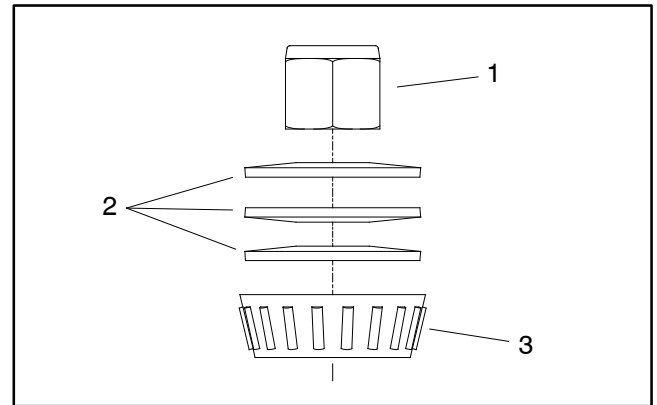

Figure 14
4. Remove grease cap (item 1) from carrier frame. Discard cap.
6. Remove three (3) Belleville washers and upper bearing cone from carrier frame. Note orientation of washers as they are removed (Fig. 14). Belleville washer orientation is critical for proper castor wheel movement.
4. Slide castor fork up through carrier frame taking care to not damage seal. Position grease packed bearing cone onto castor fork. Place three (3) belleville washers onto castor fork noting orientation shown in Figure 14.